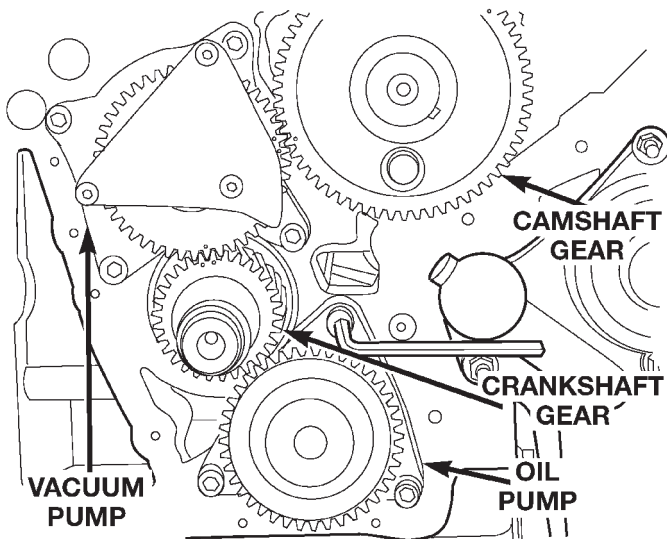

Fig. 82 Timing Marks
- (1) Coat the camshaft journals with clean engine oil and carefully install the camshaft complete with thrust plate and gear. Tighten retaining bolts to 18 N·m (13 ft. lbs.). Be sure to align the timing marks as shown (Fig. 82).